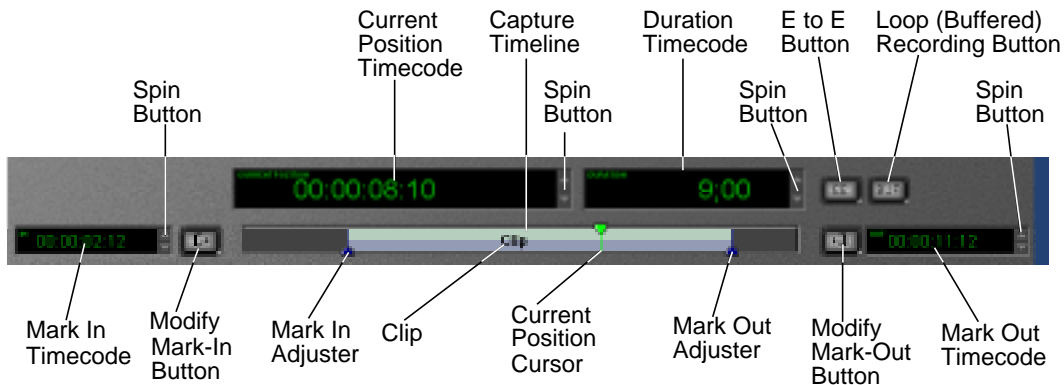

Figure 122. Capture timeline
- Drag the mark-in or mark-out cursors to a new position on the timeline (see the mark-in and mark-out cursors in Figure 122, page 264).
- Adjust the in and out marks by entering the new timecodes in the boxes provided (see the timecode entry boxes in Figure 122, page 264).